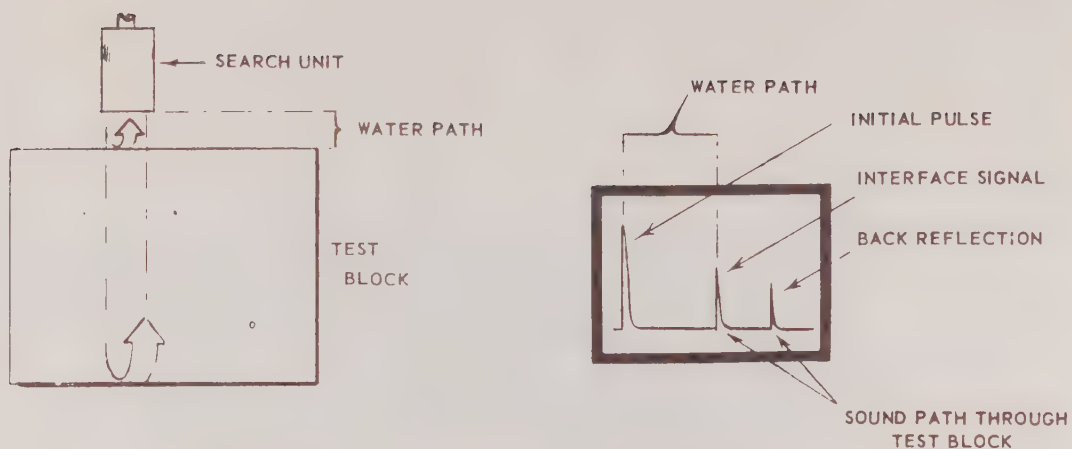

Figure 3-26 Sound Path Through Water and Test Block
- l. The next large signal to the right of initial pulse is the surface signal or top surface of test block. The distance between the two signals is the distance the sound travels in water. (Figure 3-26).
- p. Adjust Delay Control until first interface signal is at the left end of sweep line. (This eliminates initial pulse and water path from CRT screen). (Figure 3-26).